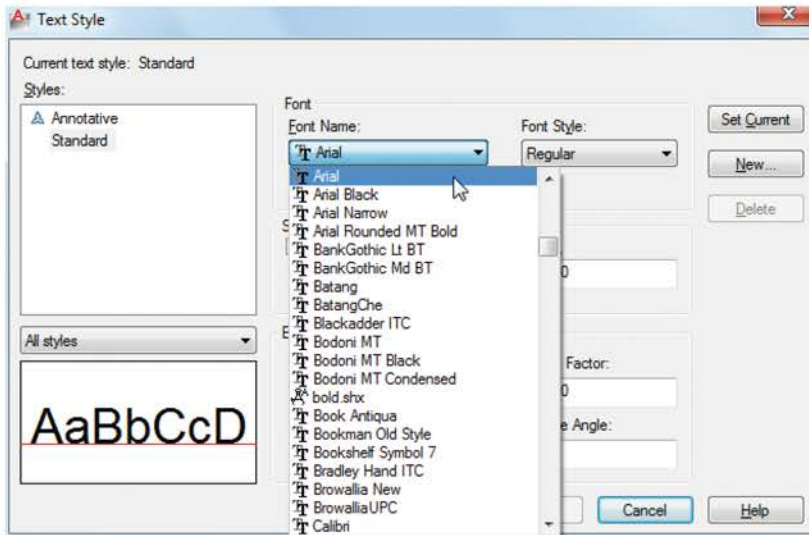

Fig. 5.7 The Text Style dialog
2. The **Text style** dialog appears (Fig. 5.7). In the dialog, *enter 6* in the **Height** field. Then *left-click* on **Arial** in the **Font name** popup list. **Arial** font letters appear in the **Preview** area of the dialog.